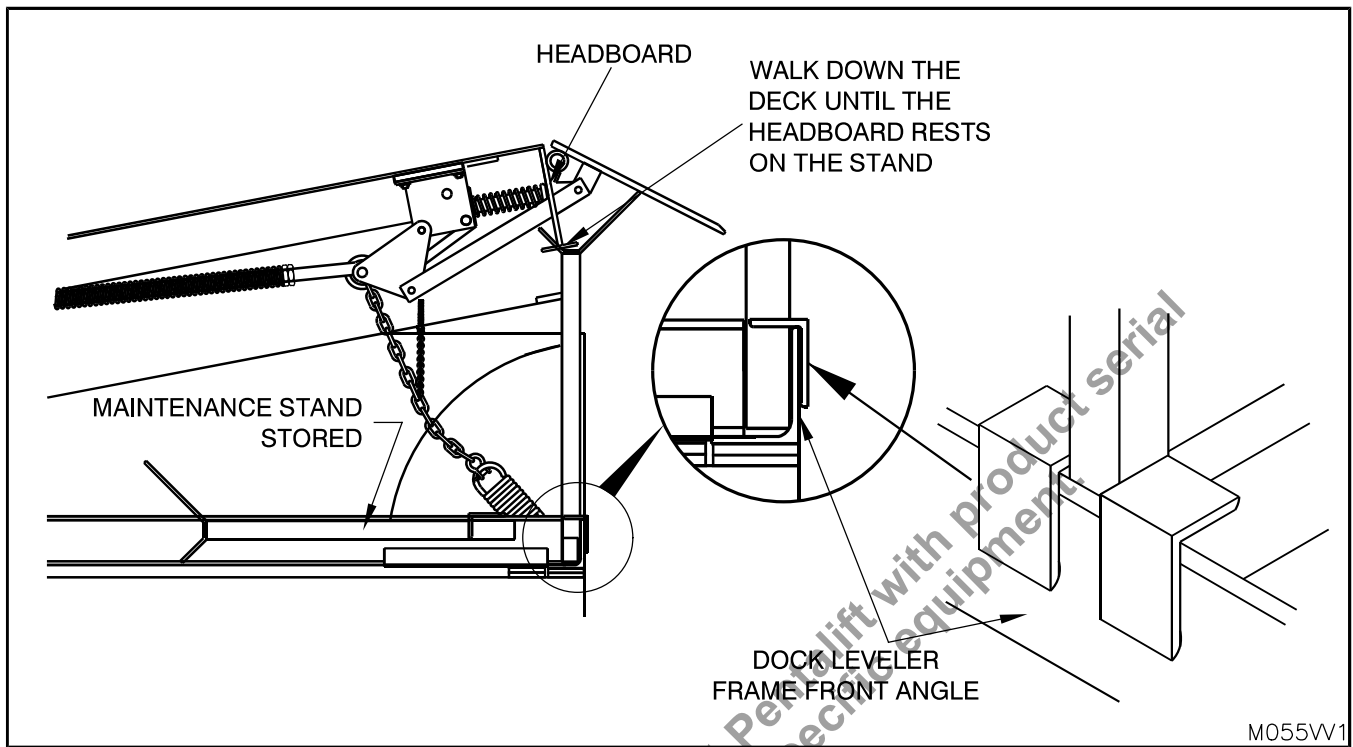

Figure 51: Supporting the Dock Leveler for Maintenance
3. Carefully walk the deck down until the headboard makes contact with the maintenance stand. If the deck and lip did not properly position, raise the deck and reposition the maintenance stand. (See Figure 51: Supporting the Dock Leveler for Maintenance on page 41)